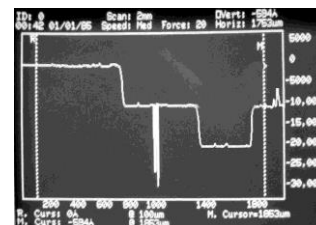

Fig 10
**Note:** For example, if scanned sample has a real step at  $x\sim 1400\mu\text{m}$  the resulting profile may look similar to [Fig 10] including the three artifact features described above.